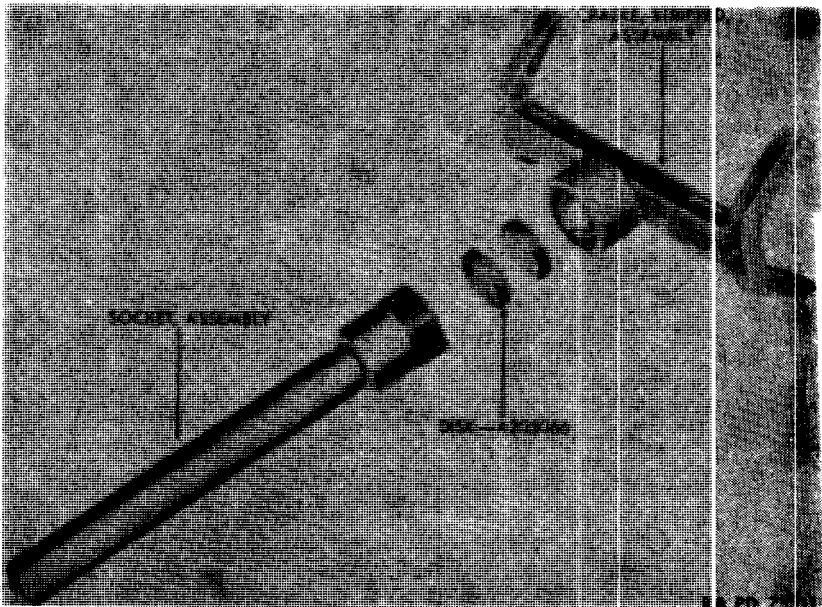

Figure 21-Tripod M14-Removal of Cradle With Ball Assembly From Socket With Shaft Assembly
(2) Unscrew the knurled nut at the base of the cradle with ball assembly, and separate that assembly from the socket with shaft assembly (fig. 21).
(3) Should the cork disks A205066 (fig. 21) need replacing, pry them out with the blade of a small screwdriver or pocketknife. Inasmuch as the disks are likely to break into small pieces during this procedure, care should be taken to remove all small bits of cork from the socket.